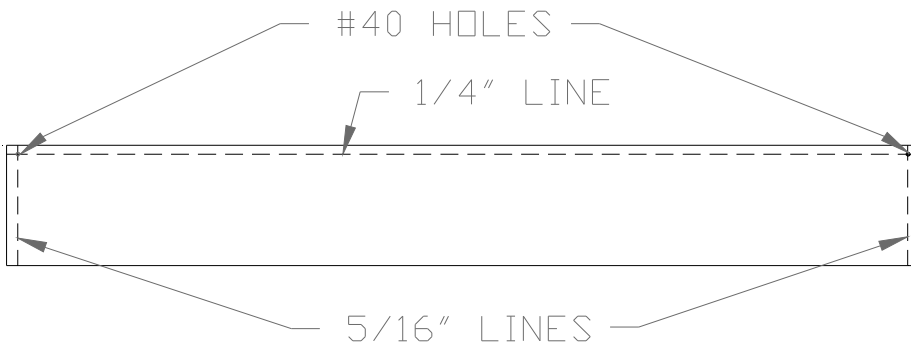

Figure 3.5.3
- 14) Match skin to hinge and drill #40 holes about 5/16 of an inch in from ends where the two lines intersect. Figure 3.5.3.